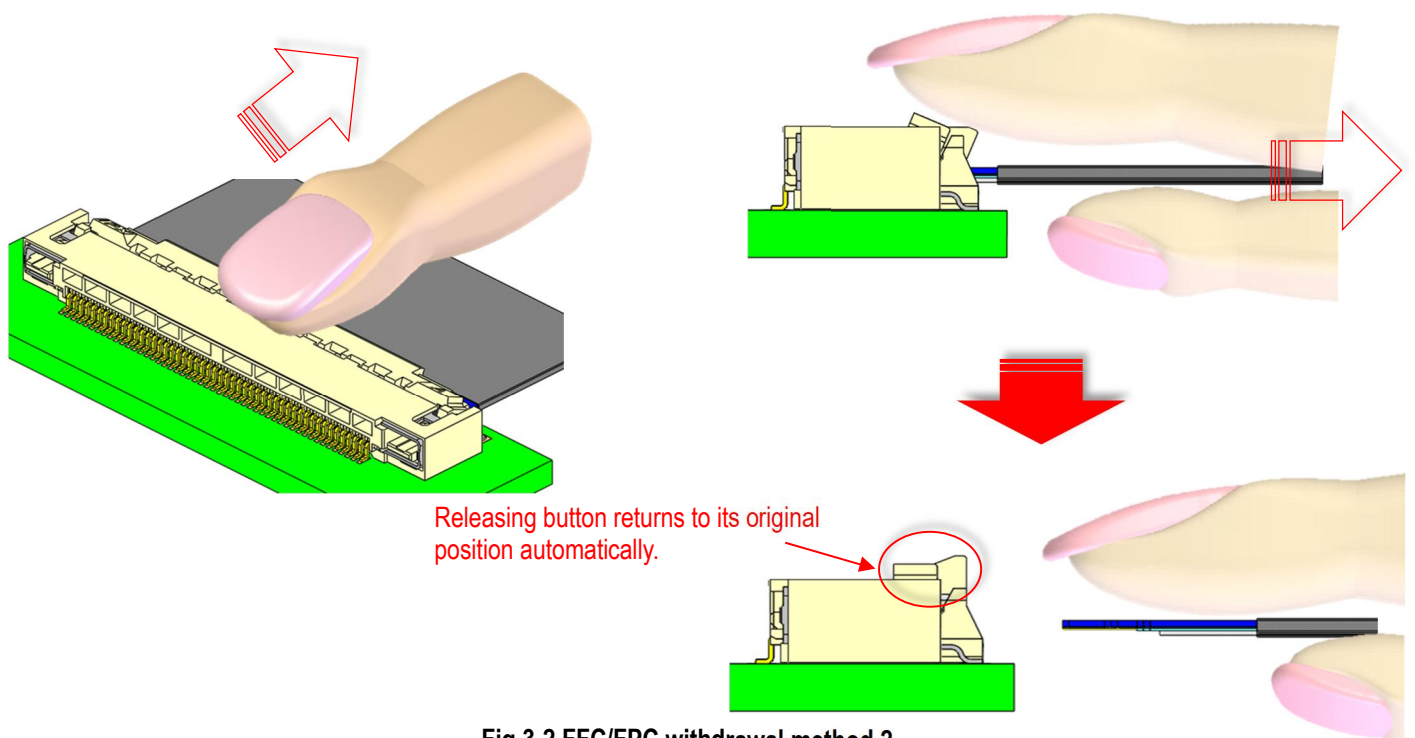

Fig.3-2 FFC/FPC withdrawal method 2
- ② Withdraw FFC/FPC from the connector horizontally while pushing the release button as shown as Fig.3-2.